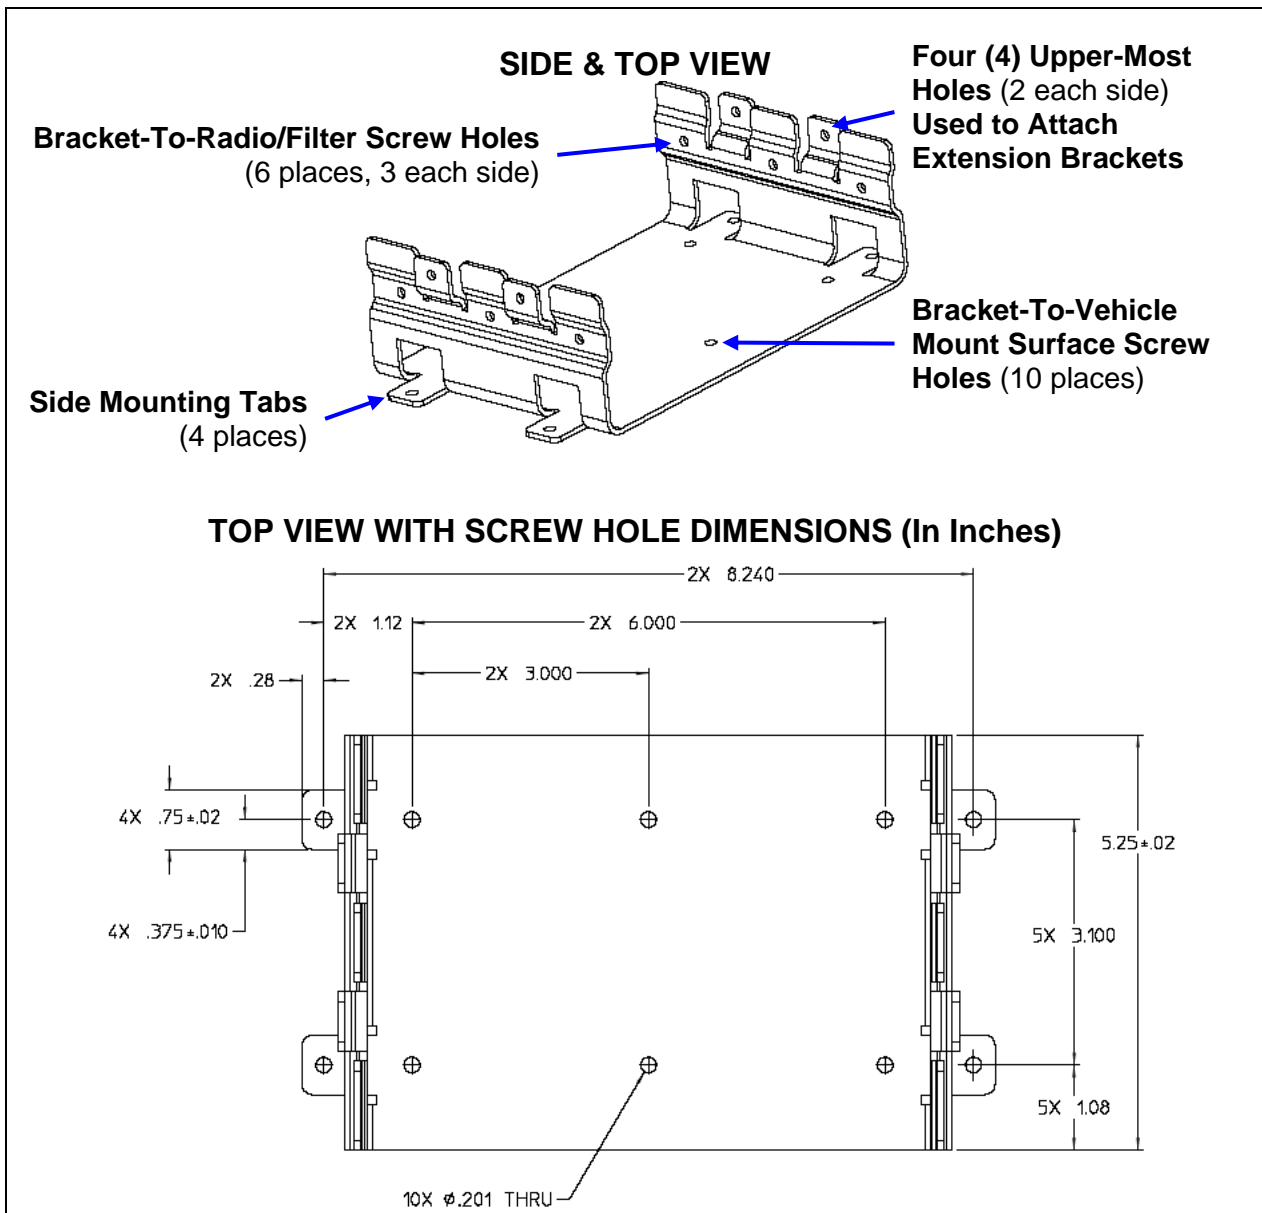

Figure 6-1: Base Bracket (Two Required Per VRS7010 Installation)
1. Select a location for each Base Bracket—one location for the VRMS7010's Base Bracket and one location for the VRBS7010's Base Bracket. As previously stated, both brackets must be mounted within approximately twelve (12) inches of each other so the section of the cable which interconnects the two radios will have sufficient length.
2. Using each Base Bracket (Item 1 in Table 4-2) as a template and/or the dimensional information shown in Figure 6-1, mark and drill mounting holes into the mounting surface for each bracket. At least six (6) screws per bracket are recommended for proper installation: Four (4) in the screw holes of a bracket's side tabs and two (2) in its center-most screw holes. If the installation prevents the installation of six screws, a minimum of four screws installed in the side tabs' holes is required, per bracket.